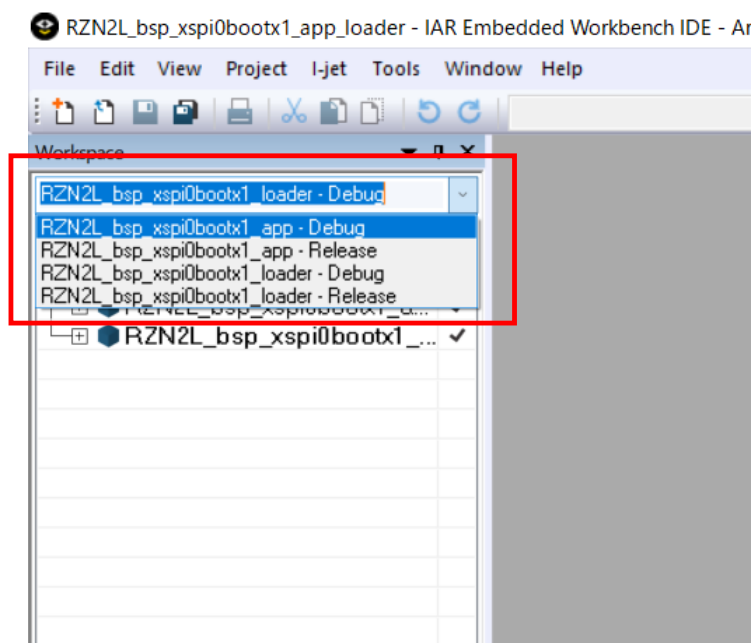

Figure 5.1 Project selection
2. Select "RZ/N2L_bsp_xspi0boot1_app" project in Workspace box as Figure 5.1.